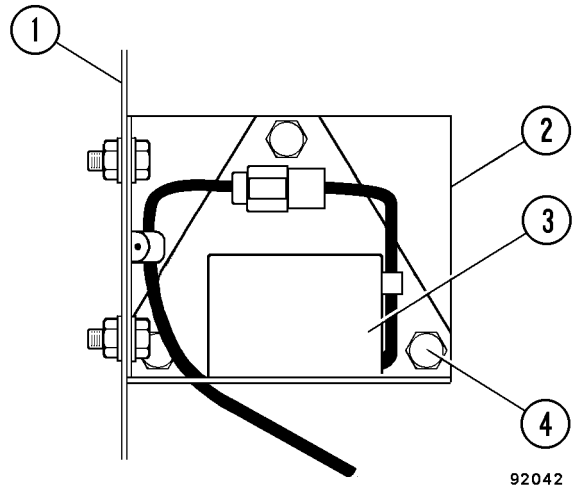

FIGURE 60-13. INCLINOMETER
2. Remove the three capscrews, nuts and lockwashers (4, Figure 60-13) and inclinometer (3).
1. Install inclinometer (3, Figure 60-13) with capscrews, nuts and lockwashers (4).
2. Loosen the three inclinometer mounting capscrews (4, Figure 60-13) and rotate the inclinometer until a voltage range of  $2.6 \pm 0.1$  volts can be measured (using a volt-meter) at pins 1 and 2 of the inclinometer harness connector.
3. Tighten all capscrews (4, Figure 60-13) to standard torque, after the adjustment.